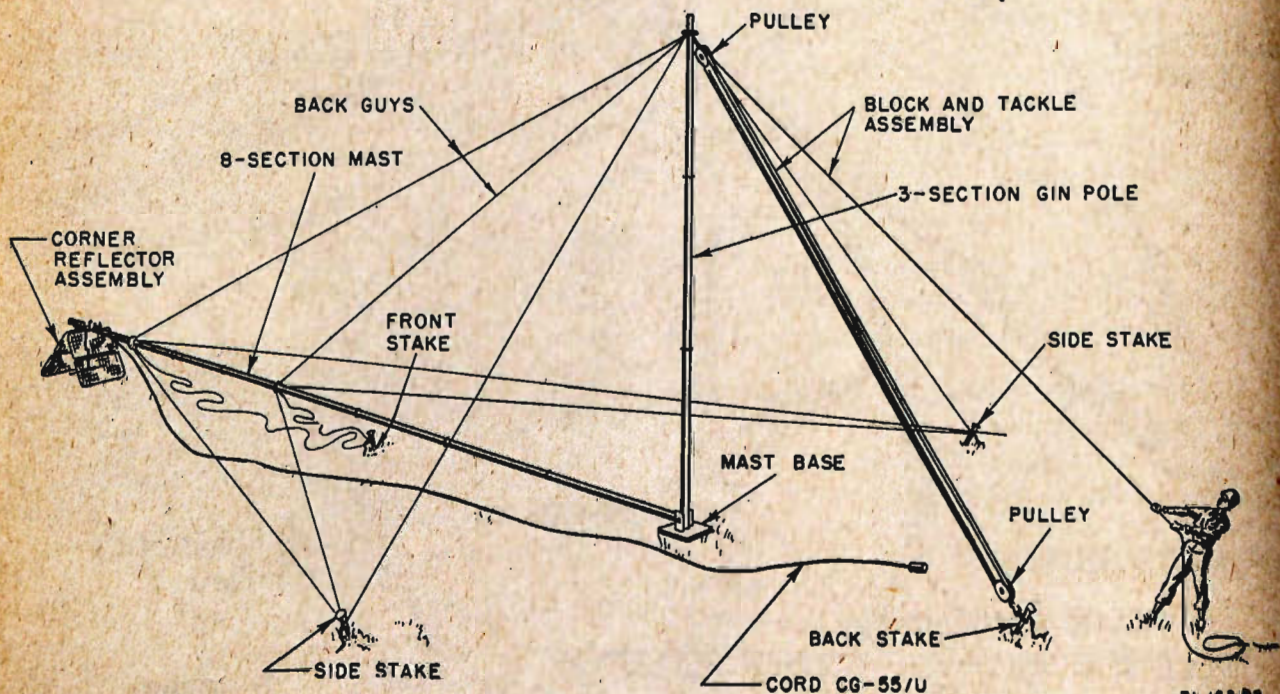

Figure 40. Gin pole erected.
a. Inspect the fastening of all guys, clamps, stakes, and the block and tackle. Raise the gin pole to a vertical position by hand. The two back guys should become taut (fig. 40). Raise the mast slightly with the block and tackle and check for crossing of guys, tautness, etc. If necessary, adjust the two back guys so that the mast is straight when raised.